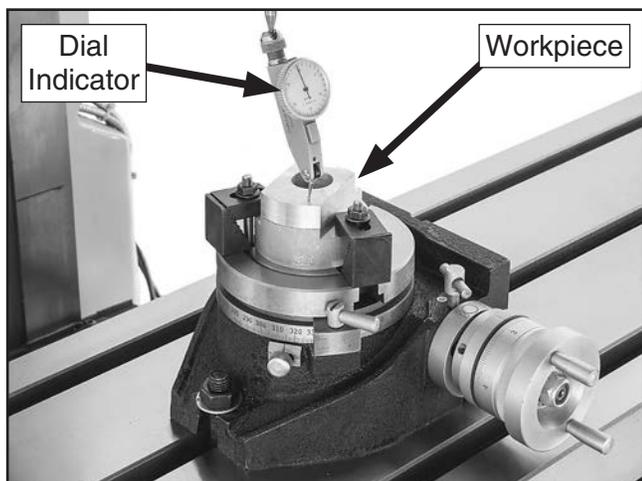

Figure 16. Example of aligning workpiece using a dial indicator.
2. Position dial indicator with magnetic base beside T1243, as shown in **Figure 16**.